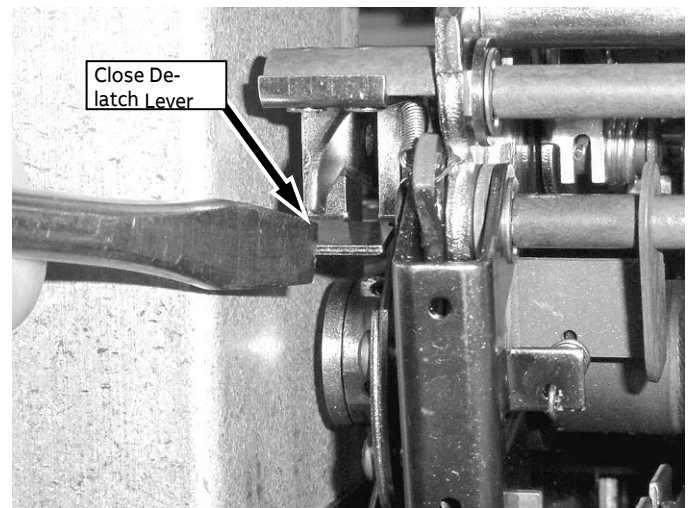
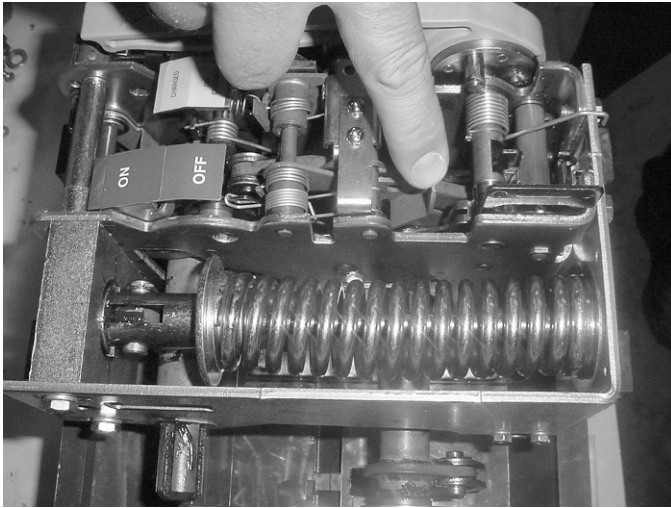

Figure 6: Pressing the close de-latch lever to release the closing spring.
Figure 8: Releasing the breaker mechanism.
7. Release the closing spring by pressing the close de-latch lever with a screwdriver, as shown in Figure 6. Then press the lever nearest the spring to release the breaker mechanism, as shown in Figure 8.
17. Align the charging spring back in position, as shown in Figure 8.